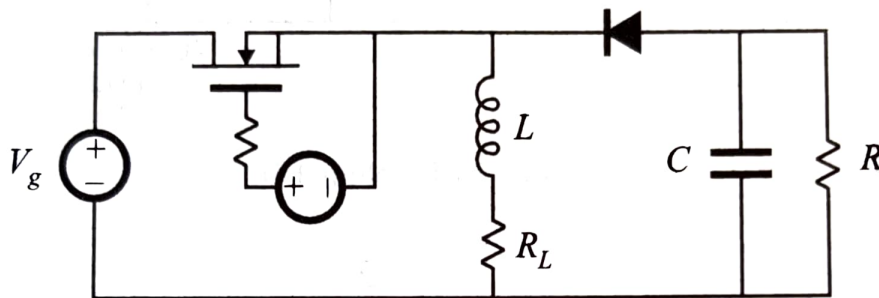

Fig. 4.85 Converter for Problem 4.7
- 4.7 The buck–boost converter of Fig. 4.85 is implemented with a MOSFET and a p – n diode. The MOSFET can be modeled as ideal, but the diode exhibits a substantial reverse-recovery process, with reverse recovery time t_r and recovered charge Q_r . In addition, the inductor has winding resistance R_L . The converter operates in continuous conduction mode.